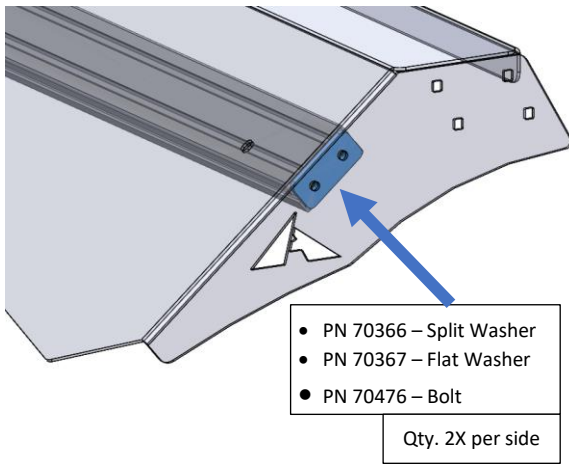

Figure 10: Air Dam Spacer Installation
7. Install air dam spacer between crossbar and air dam inside edge (Figure 10). Use ¼"-20 hardware to fasten together. Repeat for both driver and passenger side.